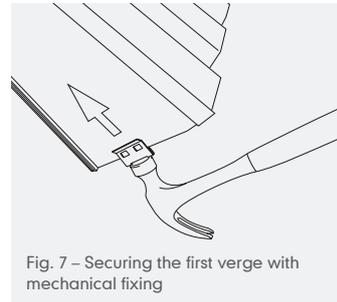

Fig. 7 – Securing the first verge with mechanical fixing
- A gentle hammer tap may be required to assist with this. The spring clip achieves a secure fix at one end by clamping (when engaged fully) to the front of the dry verge (Fig. 7).